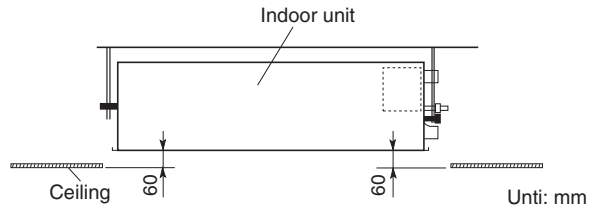

Fig. 7-19
- (1) Adjust the distance between the unit and the surface of the ceiling (60 mm) using the 2 hexagonal nuts as shown in Fig. 7-19 while following the installation gauge.